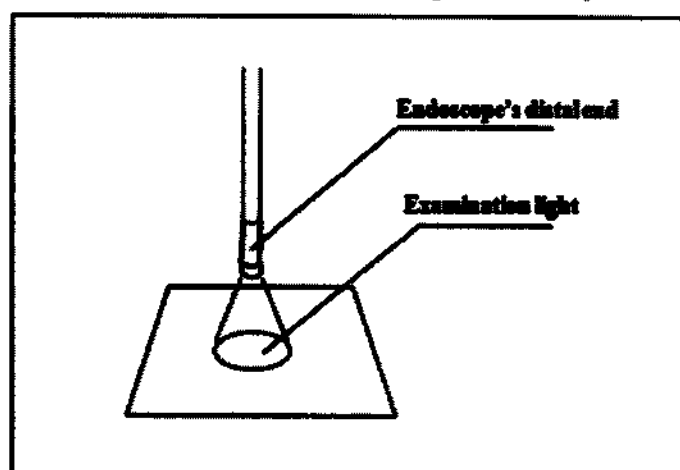

Fig 3.9
2. Confirm that Examination light is emitted from the LCD light on distal tip of the endoscope. (Fig 3.9)